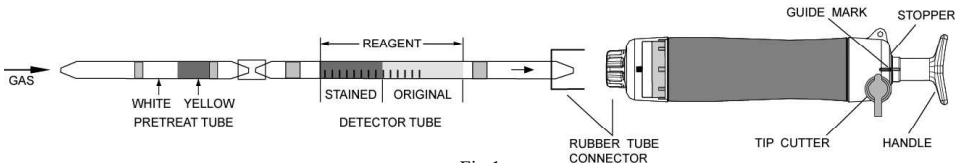

Fig.1
- ① Break both ends of the detector tube and pretreat tube, and connect each end of the detector tube and pretreat tube with rubber tube connector as shown in Fig.1.
- ② Insert the detector tube into aspirating pump securely as shown in Fig.1 (Arrow mark shall point to the pump)
- ③ Align the guide marks on the shaft and stopper of the aspirating pump.
- ④ Pull the pump handle at full stroke locked position and wait for 2 minutes or until the completion of sampling is confirmed with the flow indicator of the pump (See descriptions about the flow indicator in the instruction manual of the pump).
- ⑤ Turn the handle right or left by 1/4 (90°), push it toward to the pump without removing the detector tube from the pump inlet and then repeat the step ④ once again.
- ⑥ On completion of sampling, read the scale at the maximum point of the stained layer.
- ⑦ In case of 4 pump strokes, after the above ① to ④, turn the handle right or left by 1/4 (90°), push it toward to the pump without removing the detector tube from the pump inlet and then repeat the step ③ to ④ three times more.
- ⑧ On completion of sampling, read the scale at the maximum point of the stained layer and multiply the reading value after temperature correction undermentioned, by 0.4.